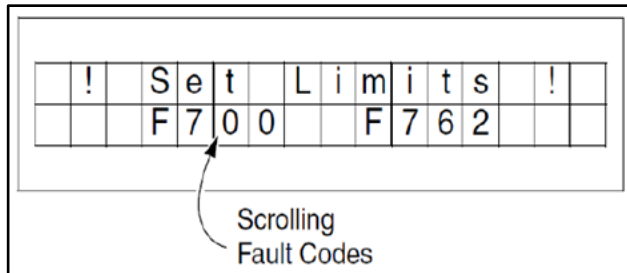

Figure 88
2. Apply power to the control system. During the system initialization, the display will indicate that the door close and open limits must be set by displaying the associated fault codes (F700 and F762 will scrawl across the display). (See Figure 88)